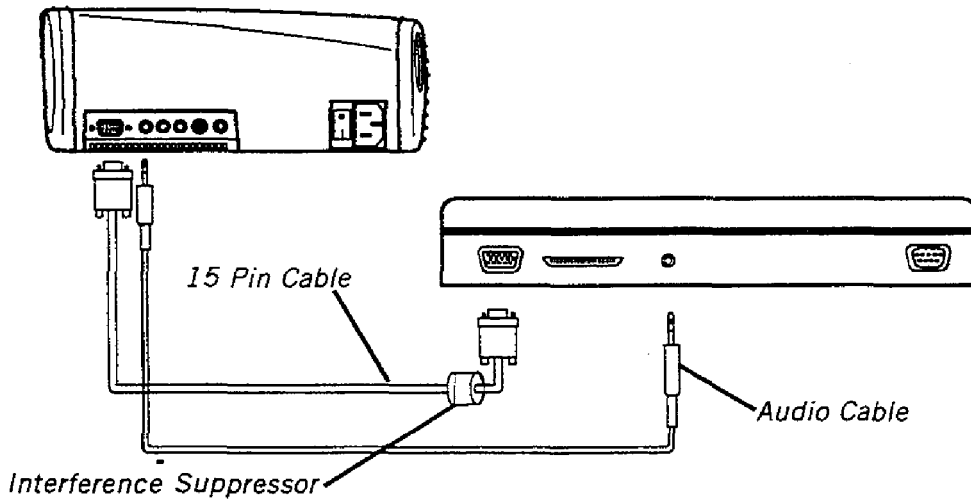

Figure 3: Connecting to a Computer
- 1 Connect the computer to the projector as shown in figure 3 on page 15